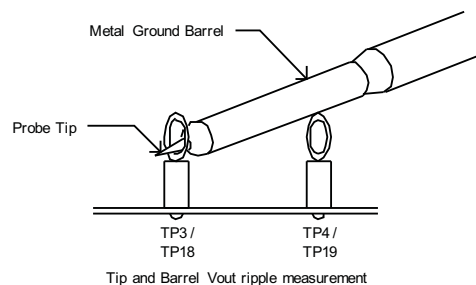

Figure 3. Tip and Barrel Measurement Technique (output ripple measurement using TP3 and TP4 or TP18 and TP19)
TPS54386EVM provides two test points for measuring the voltage generated by the module. This allows the user to measure the actual module output voltage without losses from output cables and connectors. All output voltage measurements should be made between TP3 and TP4. To use TP3 and TP4, connect a voltmeter positive terminal to TP3 and negative terminal to TP4. For Output ripple measurements, TP3 and TP4 allow a user to limit the ground loop area by using the Tip and Barrel measurement technique shown in Figure 3. All output ripple measurements should be made using the Tip and Barrel measurement.
TPS54386EVM provides two test points for measuring the voltage generated by the module. This allows the user to measure the actual module output voltage without losses from output cables and connector losses. All output voltage measurements should be made between TP18 and TP19. To use TP18 and TP19, connect a voltmeter positive terminal to TP18 and negative terminal to TP19. For output ripple measurements, TP18 and TP19 allow a user to limit the ground loop area by using the Tip and Barrel measurement technique shown in Figure 3. All output ripple measurements should be made using the Tip and Barrel measurement.
VIN: The input voltage source (VIN) should be a 0-15 V variable dc source capable of 5 A_{DC}. Connect VIN to J1 as shown in Figure 3.
Oscilloscope: A digital or analog oscilloscope can be used to measure the ripple voltage on VOUT. The oscilloscope should be set for 1-M Ω impedance, 20-MHz bandwidth, ac coupling, 1- μ s/division horizontal resolution, 10-mV/division vertical resolution for taking output ripple measurements. TP3 and TP4 or TP18 and TP19 can be used to measure the output ripple voltages by placing the oscilloscope probe tip through TP3 or TP18 and holding the ground barrel to TP4 or TP19 as shown in Figure 3. For a hands free approach, the loop in TP4 or TP19 can be cut and opened to cradle the probe barrel. Using a leaded ground connection may induce additional noise due to the large ground loop area.
4. Connect oscilloscope probe to TP3 and TP4 or TP18 and TP19 as shown in Figure 3.